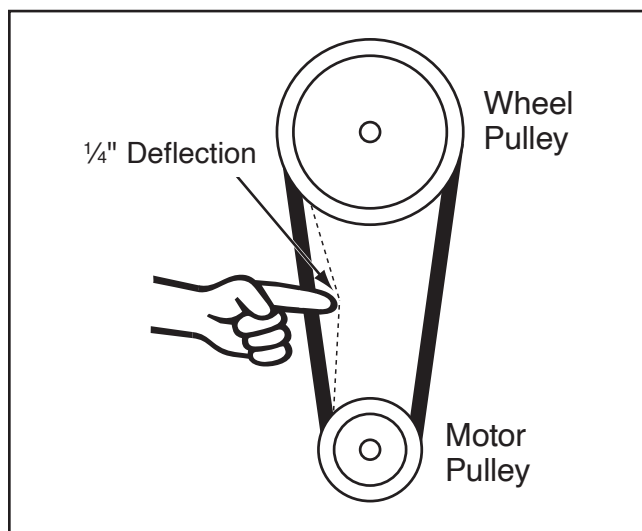

Figure 63. Checking belt deflection.
7. Adjust motor position with hex bolts from **Step 5** until there is approximately $\frac{1}{4}$ " belt deflection when moderate pressure is applied between pulleys (see **Figure 63**).